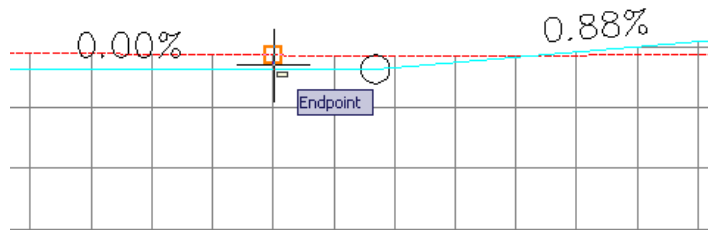

Figure 6-50 Picking a point near a PVI
7. Zoom in to the fifth circle from the left of the profile view and click on the second grid on the left of the fifth circle, as shown in Figure 6-50.